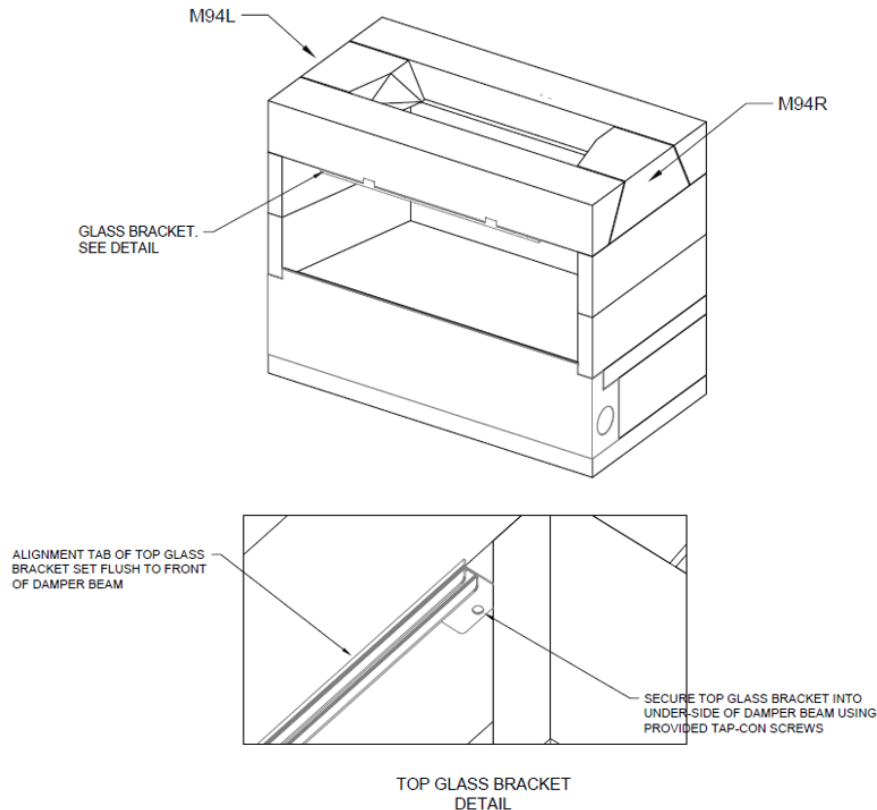

FIGURE 18
10) For the 48" model, secure the Top Glass Bracket B (E-TG1) to the underside of the front damper beams using the provided 1/4" tap-con screws. The tap-con screws will require a 3/16" pilot hole to be drilled prior to attachment. It is recommended to coat the 1/4" tap-con screw with Earthcore Adhesive before inserting into pilot hole to create a sealed fastening (Figure 18).